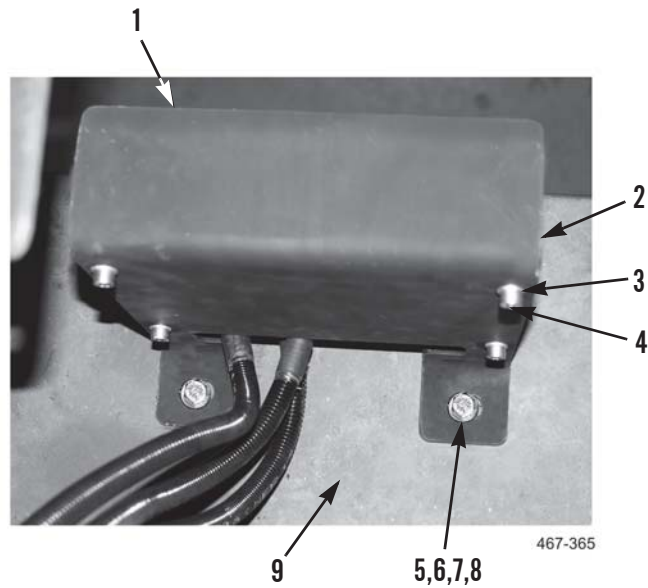

Figure 3. PLS M1075 Stowage Control Unit Removal.
1. Remove two locknuts (Figure 3, Item 8), washers (Figure 3, Item 7), bolts (Figure 3, Item 5), washers (Figure 3, Item 6), and stowage control unit bracket (Figure 3, Item 1) from platform (Figure 3, Item 9). Discard locknuts.
2. Remove four bolts (Figure 3, Item 4), washers (Figure 3, Item 3), and stowage control unit (Figure 3, Item 2) from stowage control unit bracket (Figure 3, Item 1).